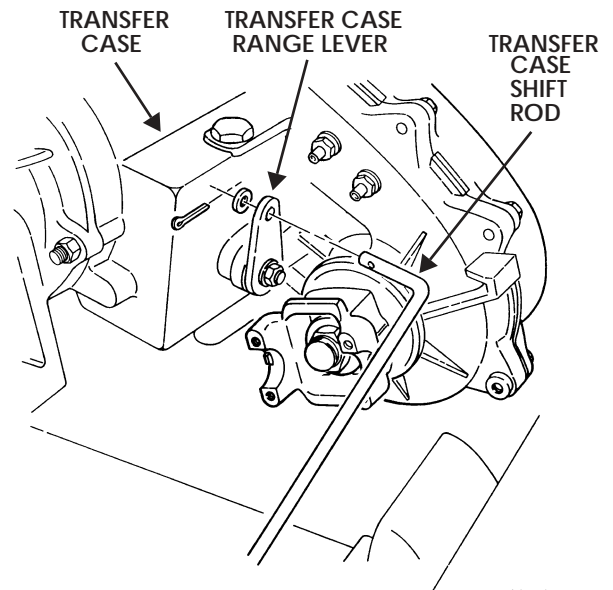

Figure 5-68: Shift Rod and Range Lever
13. Connect transfer case shift rod to transfer case range lever with washer and cotter pin. Connect low range switch (Figure 5-68).